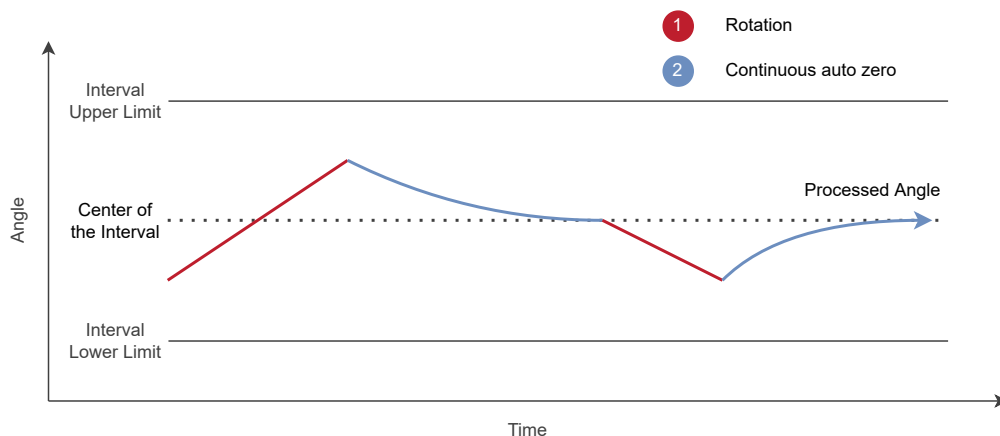

Figure 5.5: Continuous Auto-zero Behaviour
- > **Continuous:** The auto-zero filter will always be active and will cause the final angle to continuously move towards the center of the current interval. It is recommended to use a high auto-zero beta value to allow the final angle to move between intervals during slower rotations. This mode applies to devices without a mechanical ratchet, or with haptic ratchet effects. This behaviour can be viewed in Figure 5.5